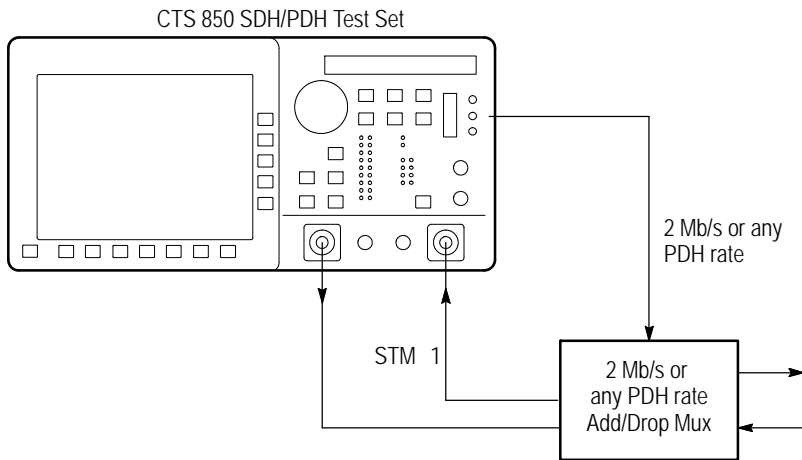

Figure 3 3: Setup to Test Mapping and Demapping
1. Connect the CTS850 to an Add/Drop Multiplexer (ADM) as shown in Figure 3 3.